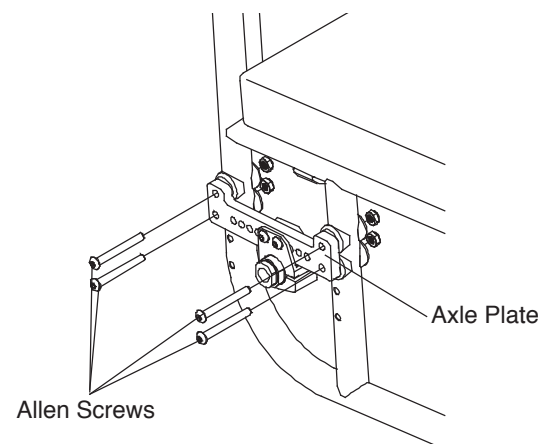

Figure 46
2. Remove the four Allen Screws that secure the axle plate to the frame. See Figure 46. Carefully note the order in which the various washers and nuts (and other parts, such as anti-tip receptacles or armrest or stroller handle receivers) originally installed on your chair as you will need to reinstall all of these parts in the exact same order in Step 4 below.